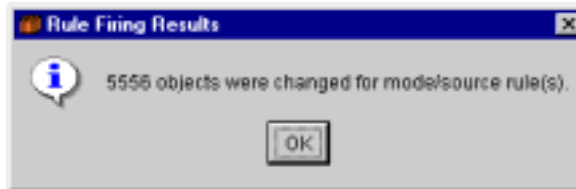

Figure 5.213 Rule Firing Results Window
3. On the Execute Rules menu, click the Apply Mode/Source Rules command. After a moment, the Rule Firing Results window opens (Figure 5.213), which contains a message about how many objects were changed for mode/source rule(s).